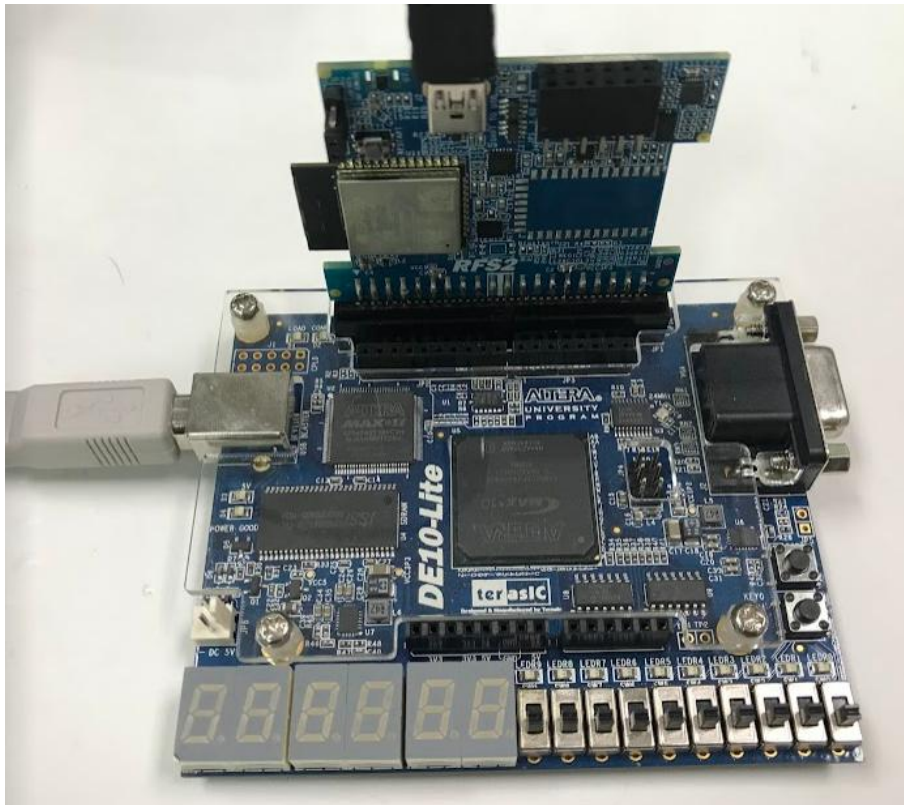

Figure 3-28 Setup RFS2 on DE10-Nano
1. Install RFS2 on GPIO-0 2x20 Header of DE10-Nano, as show in **Figure 3-28**.